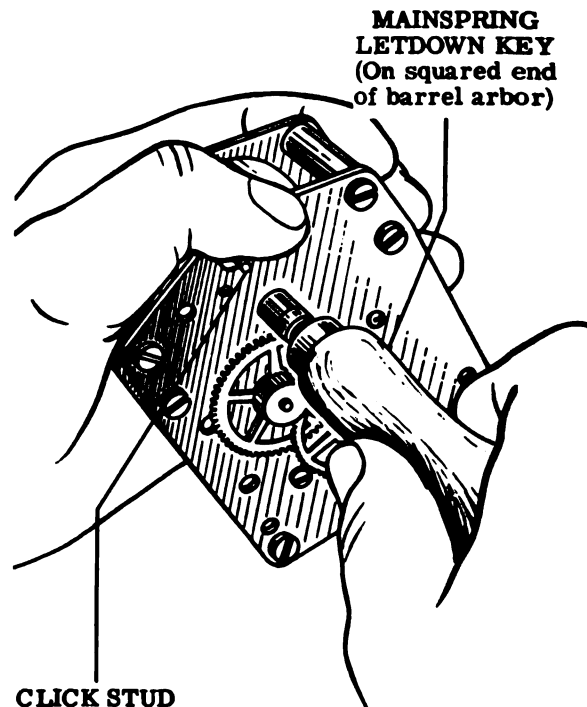

Figure 34
1. Before doing any disassembly work, let down the mainspring. Place the mainspring letdown key (Tool No. 5A) over the squared end of the barrel arbor and hold it firmly with the fingers of one hand. With the other hand, hold the movement and press the click stud aside with the thumb, as shown in Fig. 34, so that the ratchet wheel is disengaged from the click. The click will not disengage from the ratchet wheel when you press on the stud. To do this you must turn the winding key a very small amount (less than 1/8 of a turn) in a clockwise direction. When you do this, you will feel the click disengage from the ratchet wheel and the force of the mainspring will be felt in the hand holding the letdown key. Allow the letdown key to spin slowly in the fingers until the mainspring is completely run down.